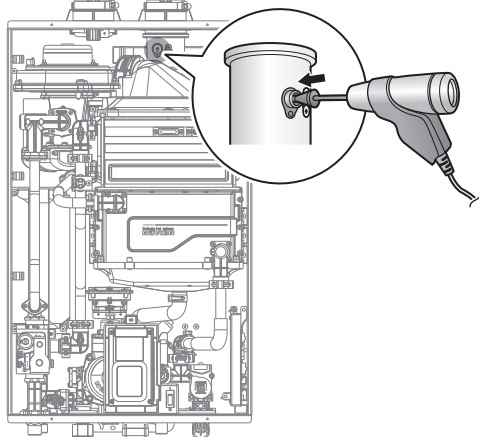

Figure 7
- a. Loosen the screw, rotate the plate and remove the gasket to access the emissions monitoring port as shown in Figure 7.
- b. Insert the analyzer into the port (Figure 7).